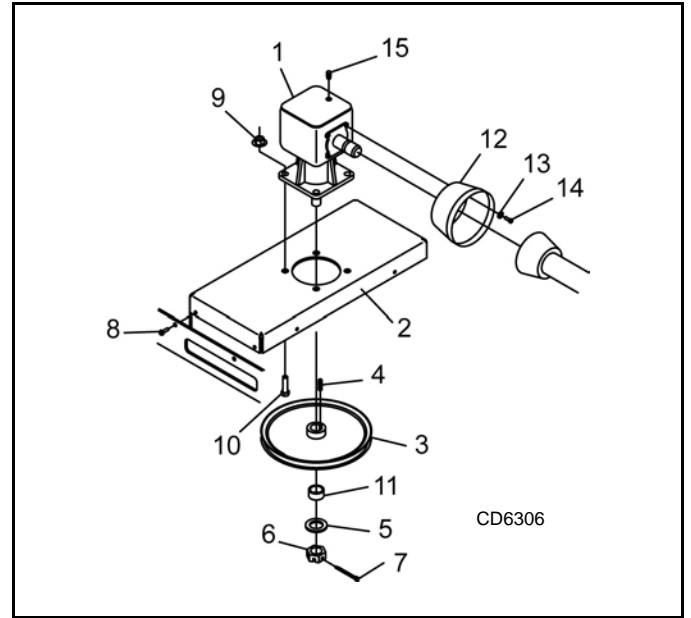

Figure 15. Gearbox Stand Assembly
Refer to Figure 15.
2. Remove vent plug (15), Figure 15, and siphon gear lube from housing through this opening.
3. Remove gearbox stand (2) from mower deck by removing four hex screws (8).
4. Remove four cap screws (14) and washers (13) and remove shield (12) from gearbox.
5. Remove castle nut (6) and hardware from output shaft of gearbox.
6. Remove sheave (3) from gearbox.
7. Remove four bolts (10) that attach gearbox to gearbox stand and remove gearbox.